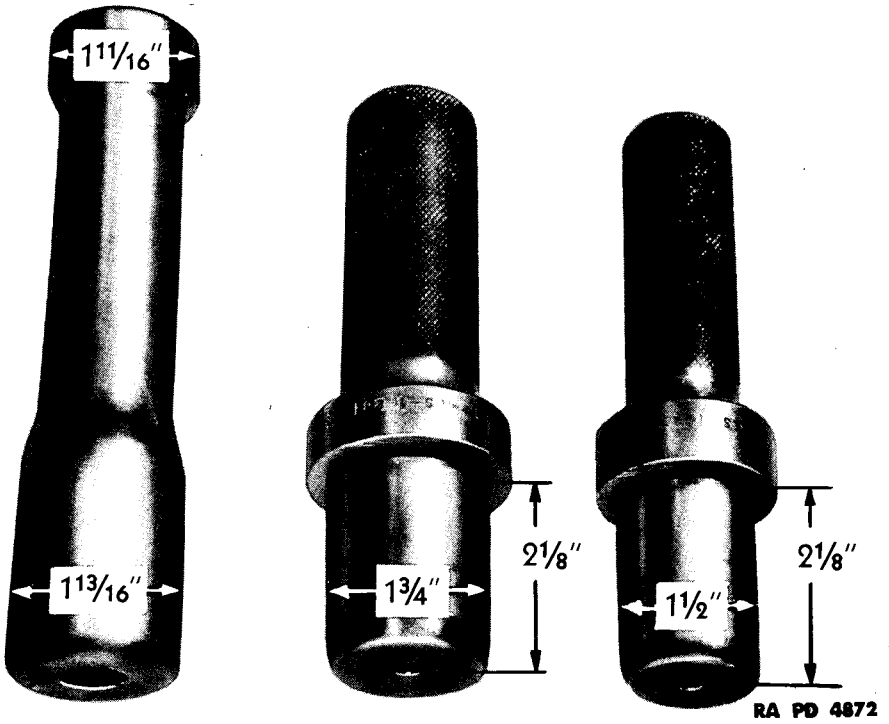

FIGURE 62 — NEEDLE BEARING REMOVER AND NEEDLE BEARING DRIVERS
(7) Remove needle bearings from compensating case cover (figs. 47, 62 and 64). Remove washers over needle bearings and drive bearings out of cover from outside end with special needle bearing remover (left tool fig. 62). One end of tool is used to remove smaller bearing and other end for larger bearing.